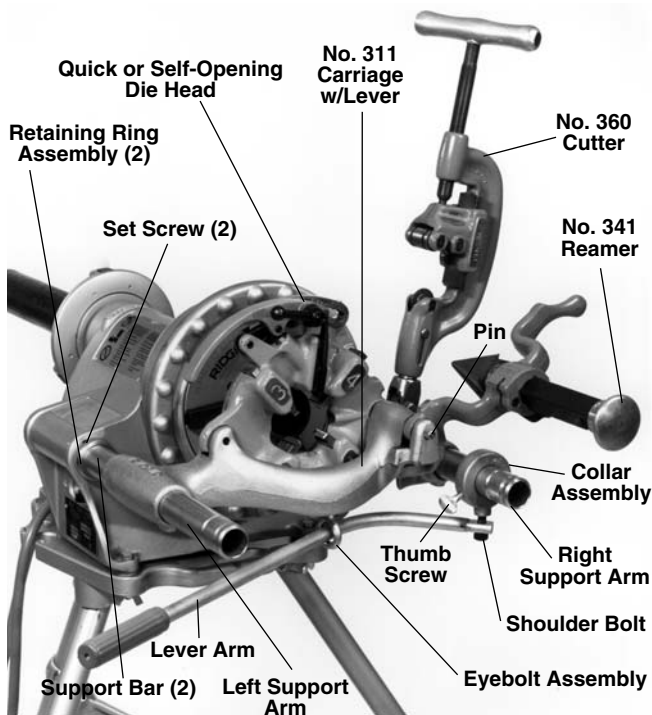

Figure 4 – No. 300 Power Drive with 311A Carriage, 360 Cutter, 341 Reamer and Die Head
1. Inspect the support bars to insure they are forward and secured by two (2) retaining ring assemblies. Retaining ring set screws must be tight (*Figure 4*).
2. Secure eyebolt to the 311A Carriage. Slide lever arm through the eyebolt assembly and secure to collar assembly with shoulder bolt (Figure 4).
4. Install the 360 Cutter and 341 Reamer by inserting arm in the slot provided in the carriage and secure with the drive pin (Figure 4).